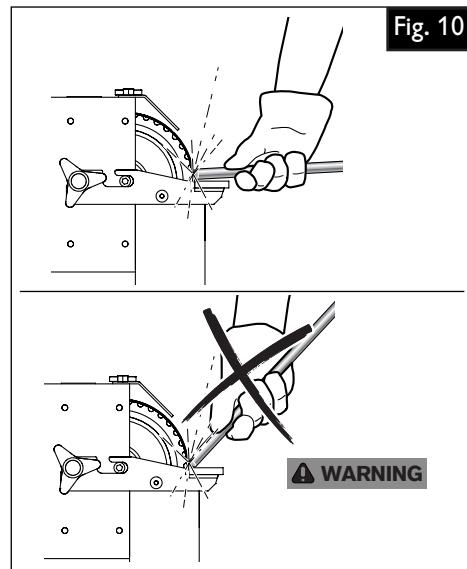

Fig. 10
9.6 Contact grinding (Figure 10).